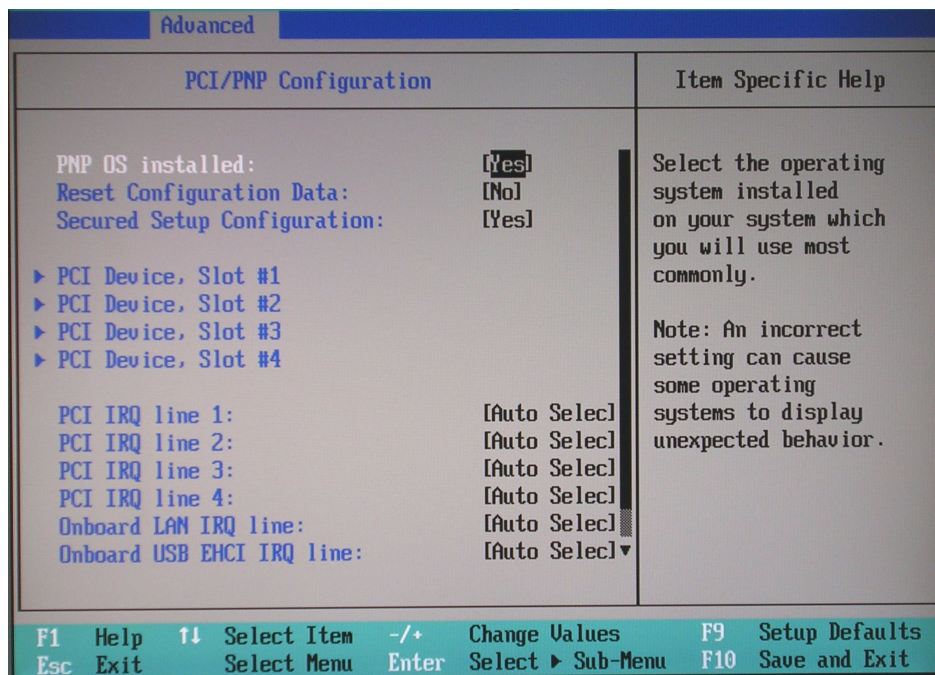

Figure 8-111 BIOS Advanced PCI/PNP Parameters
PCI/PNP Configuration	Figure 8-111 on page 8-110
- 6.) Set the parameters in the **PCI/PNP Configuration** screen as shown above in Figure 8-111.